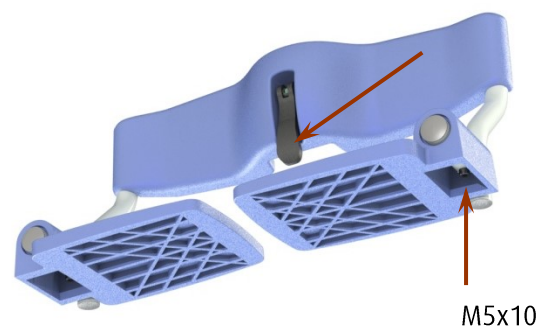

Figure 30 Older Foot rest
- Check M5x10 (bottom of plate), and replace stainless-steel bolts with ELVZ 8.8 bolts. (See figure 30)